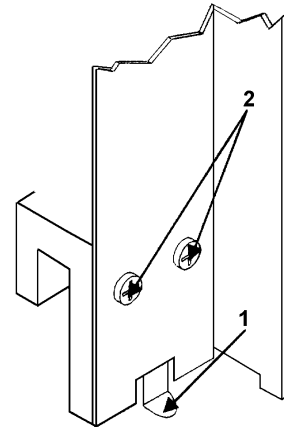

Figure 11
- 1.** Misfeeding may occur if clips extend too far under envelopes. First increase vacuum and test run; then, if required, move clip **[#1, Fig. 11]** to front using set screw behind them.
Vertical position of clips is also adjustable. Loosen two screws **[#2, Fig. 11]** and position bottom of clip flush with bottom of Guide.